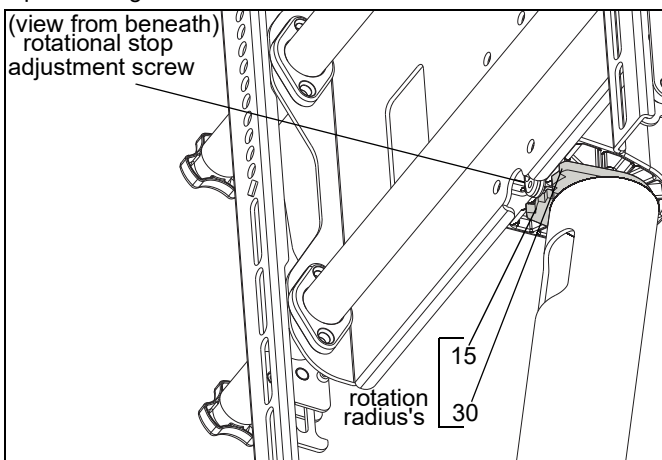

Figure 5
- Use the 5/32" security hex key (Z) to loosen rotational stop adjustment screw until desired radius is achieved. (See Figure 5)